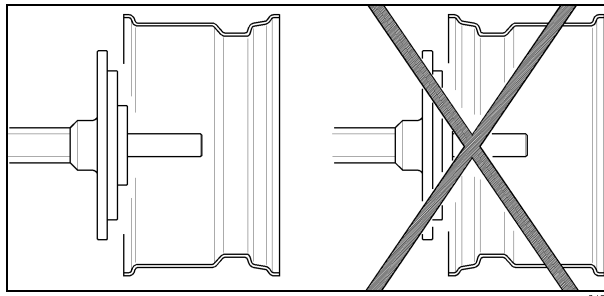

Fig.18
D. Lock the wheel to the chuck with the appropriate flange checking that the drop center of the rim is towards the outside of the machine (Fig.18).